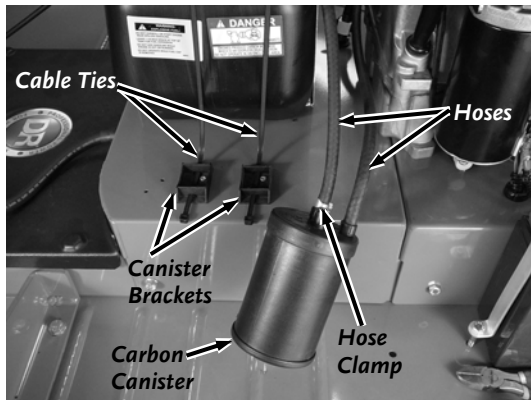

Figure 30
4. Slide the Hose Clamp down from the Hose connection with Pliers and twist the Hoses from the Canister (**Figure 30**).